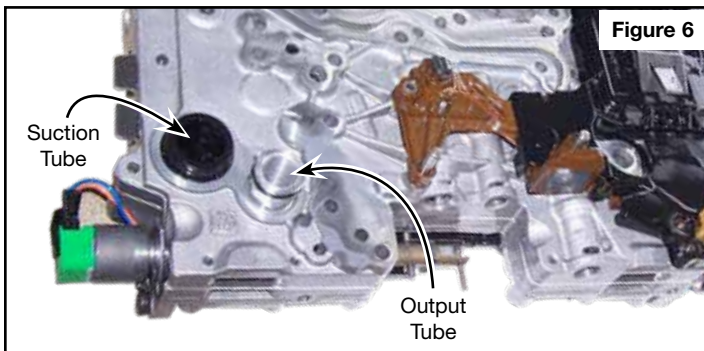

Figure 6
- The valve body may have to pried down on the front end because of the suction and output tubes (Figure 6)